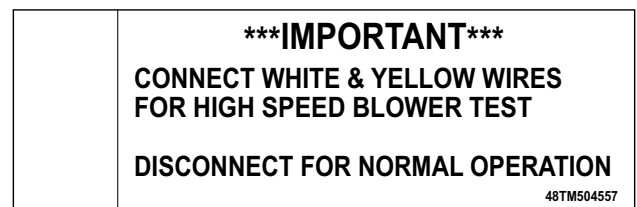

Fig. 23 — High Speed Test Label
4. Locate and connect the WHT and YEL wires extending from the VFD. The two wires are bundled together using the label shown in Fig. 23.